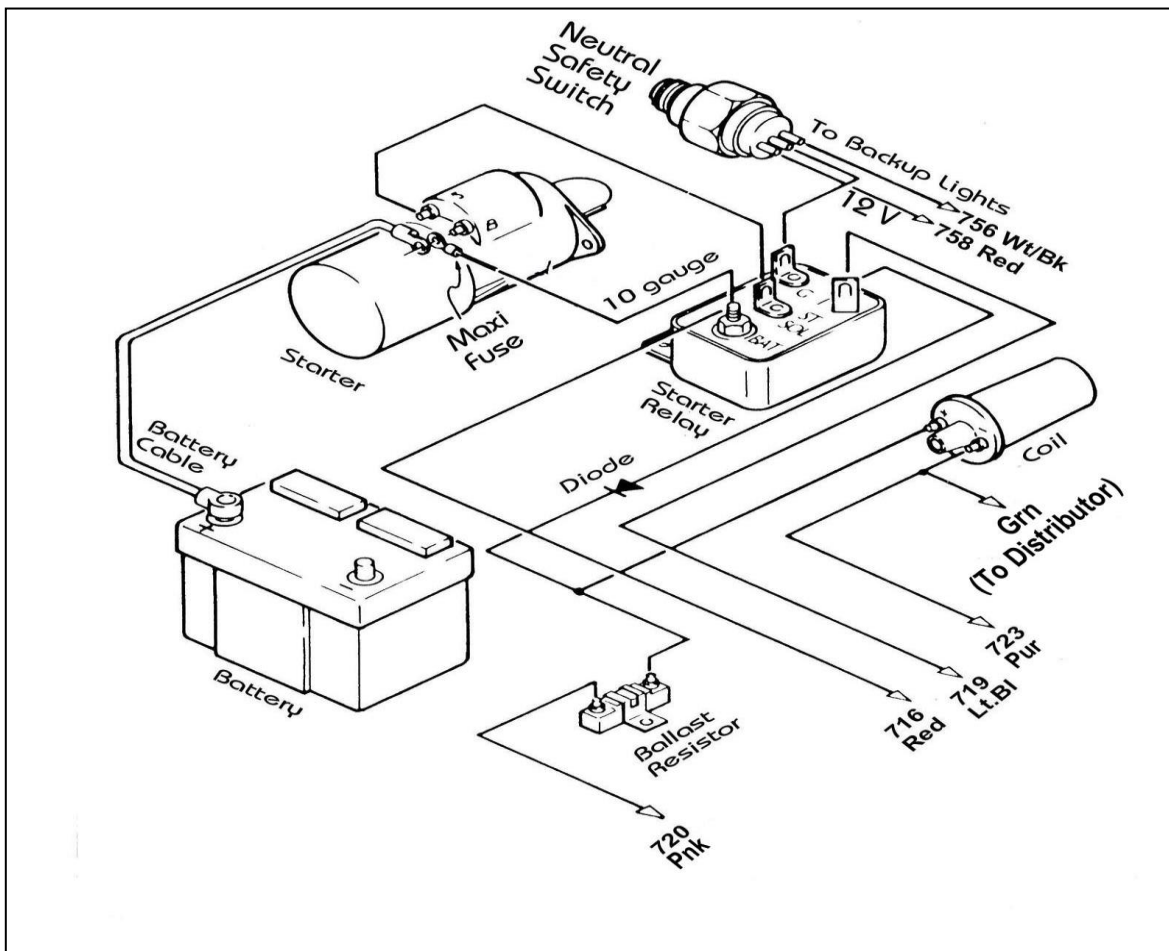

Figure 11.2 Mopar Ignition (Start/Run) System
11.2 Mopar Ignition (Start/Run) System. See Figure 11.2.
- 11.2.2** With crimping tool, attach the Maxi-Fuse (**Figure 8.3**) onto remaining length of red 10-gauge wire. **DO NOT OMIT IT!** Connect this wire from the Starter Relay Battery terminal to the Starter Motor Battery terminal, as shown in **Figure 11.2**. **USE ONLY 10-GAUGE WIRE.**
- 11.2.4** Connect a 14-gauge wire from the Starter Relay Ground (G) terminal to the center terminal of the transmission mounted Neutral Safety Switch. Older Mopar neutral safety switches have only one terminal. On newer switches, the two outside terminals are for backup lights. Use existing wiring to connect these two terminals as shown in **Figure 11.2**.
- 11.2.7** Connect a 14-gauge wire from the Starter Relay Ignition (I) terminal to the ignition coil side of the Ballast Resistor. This wire serves as a Ballast Resistor BYPASS during engine starting. You must add a diode (8-amp min., 100 PIV) to this wire as shown in **Figure 11.2**. If you are not using a Ballast Resistor, do not connect this wire.